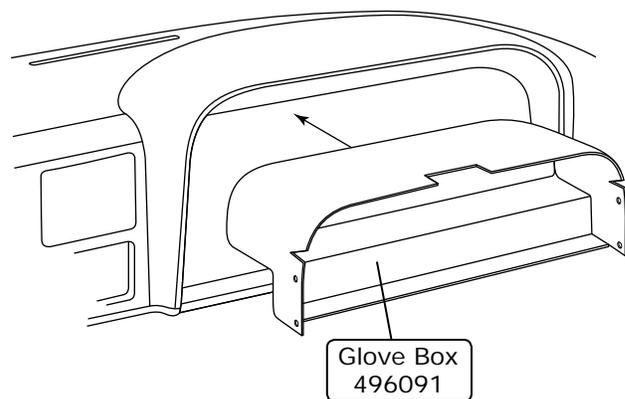

Figure 2
3. Install louvers into the center/passenger side under dash louver assembly as shown in Figure 2, below.
4. Install (3) 1/2" plastic plugs as shown in Figure 2, below.
5. Install the new glove box using the OEM screws (See Figure 2, below).